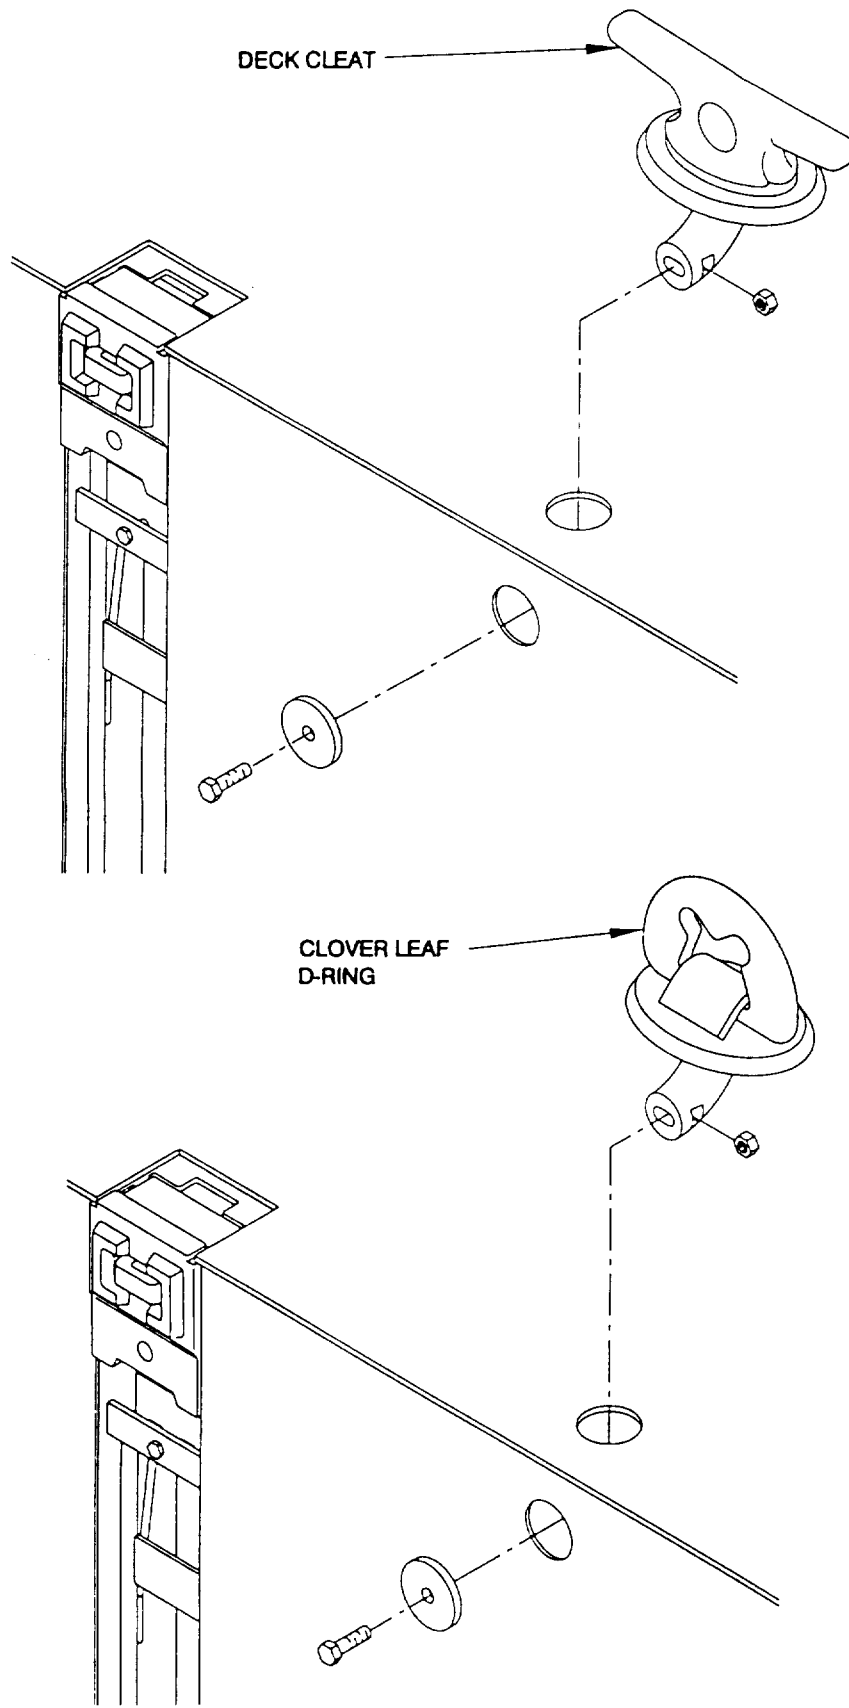

Figure 3-3. Removal of Deck Fittings.
- a. Remove deck fittings by loosening with adjustable wrench and remove bolt, washer, deck fitting and nut as shown in (Figure 3-3).